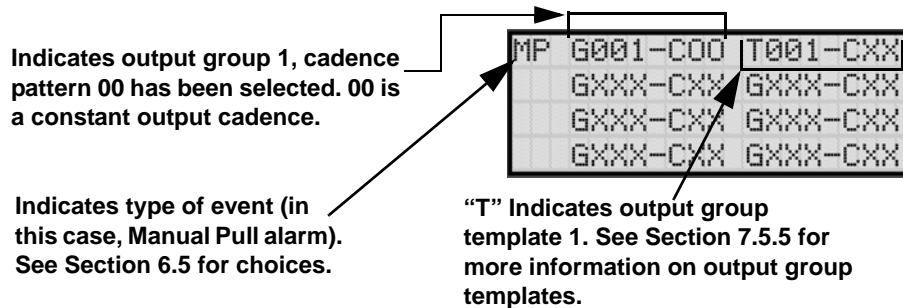

Figure 7-3 Selecting Output Groups/templates and Cadence Patterns for a Zone Event
Note: Abbreviations in the parentheses are the characters that are displayed in programming (see Figure 7-3).
6. From the next screen, a list of 8 event types will display. Select the event type you want to program. A screen similar to the one shown in Figure 7-3 will display. Press .
8. Select options for each event that could occur in this zone. Figure 7-3 is a complete example of how you might map a zone.